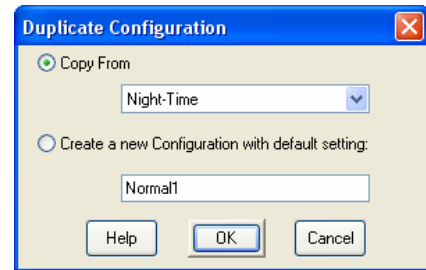

Fig. 9
- (d) At the text box below the “Create a new Configuration with default setting,” enter the desired name of the new configuration and then click “Ok” button. See Fig. 9.
- (d) At the text box below the “Create a new Configuration with default setting” enter the desired name of the new configuration and then click “Ok” button. See Fig. 9.